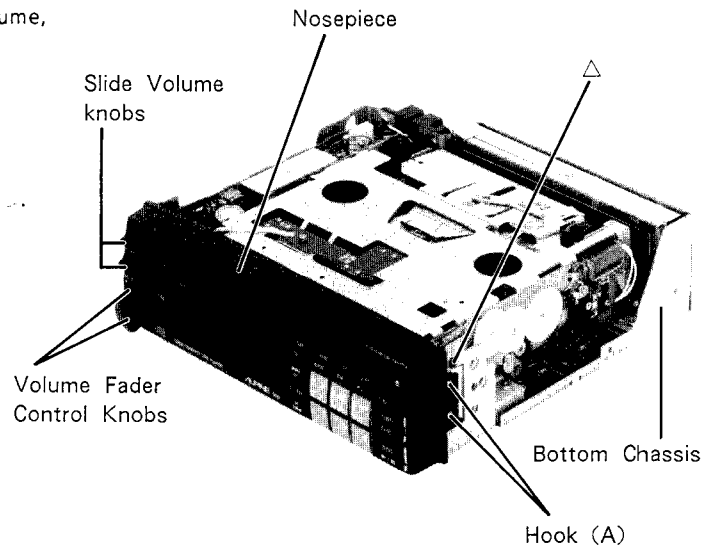

Figure 1
- (1) After removal of the top cover, remove the volume, fader control and two slide volume knobs as shown in Figure 1.
- (2) Remove the six hooks (A) as shown in Figures 1, 2 and 3. The nosepiece will be removed.
- (1) After removal of Nosepiece and Top Cover, remove the four screws marked with "△" as shown in Figures 1, 2 and 4.
- (2) Disconnect all wires from the QRB Connector.
- (3) Main P.C.Board with CD Mechanism, Front Chassis and Main Front P.C.Board, can be removed completely.